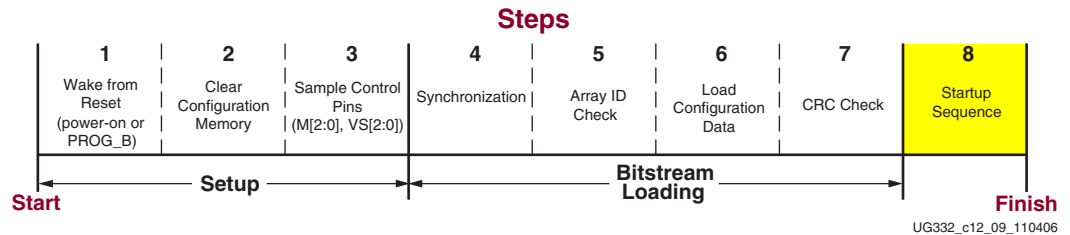

Figure 12-11: Startup Sequence
3. Hold the **DONE** pin Low, which prevents the FPGA from completing the Startup Sequence, shown as Step 8 in Figure 12-11, page 248.